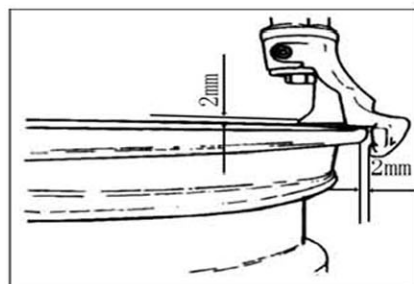
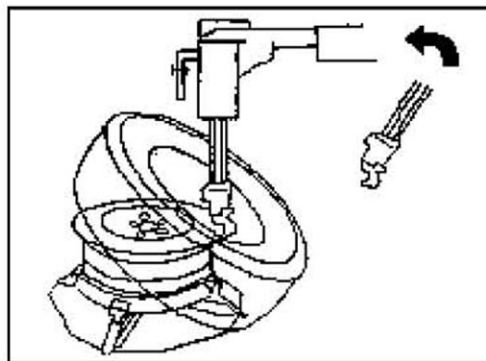

Fig22
Fig26
4.1.3 Move the hexangular shaft to the working position to make the demount tool close to the rim of the wheel. The cylindrical roller in the demount tool will contact with the external rim of the rim and the bottom of the demount tool will contact with the surface of the rim. Press the lock handle press button (fig2-2) to lock horizontal arm and hexangular shaft and the hexangular shaft will automatically move upwards. The quadric shaft will automatically backward a little to make the demount tool detached from the rim of the rim to avoid the damage on the rim. (fig22) .
4.2.2 Spread the lubrication liquid or soap liquid around the lip. Tilt the tire against the rim and keep the front end upwards. Press down the column tilt pedal (fig2-11) to make the column return to the original position. Move the demount head to firmly contacted rim(fig22). Position the left of the lip above the tail of the demount tool and the right under the hump of the demount tool. See FIG 26.